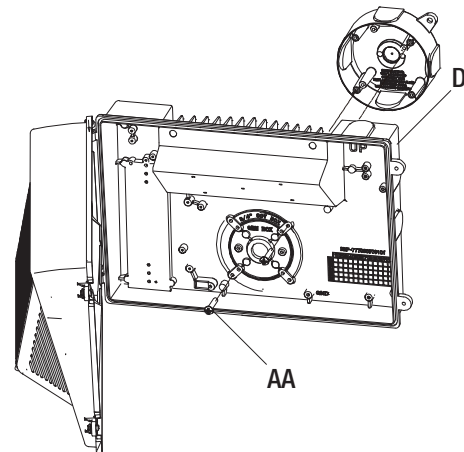

Fig. 1
- Route the junction box wires through the large center hole in the mounting base (D).
- Align the holes on the mounting base (D) with the holes on your junction box. Use two (2) or four (4) #8 screws (AA), depending on the size of the holes in your junction box, to attach the mounting base (D) to your junction box. (Fig. 1)